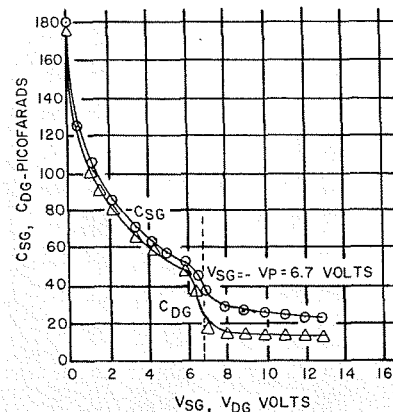

Figure 7. Variation of Source-to-Gate and Drain-to-Gate capacitance with voltage.
2. The FET has input capacitance that varies inversely with V_{sg} (bias). See Figure 7.